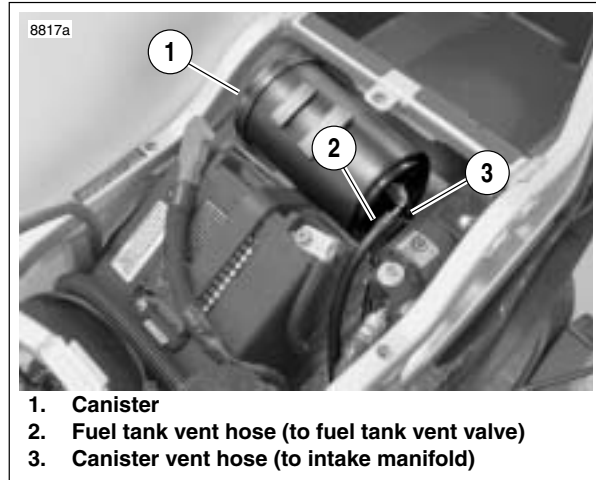

Figure 4-117. Carbon Canister Installation.
2. See Figure 4-117. The canister assembly mounts behind the battery in the tail section.
3. Label and disconnect the fuel tank vent hose (2) and canister vent hose (3) from the canister.
2. See Figure 4-117. Attach fuel tank vent hose (2) to canister if disconnected.
4. See Figure 4-117. Connect two hoses to the canister. Make sure to push hoses all the way on to carbon canister fittings.